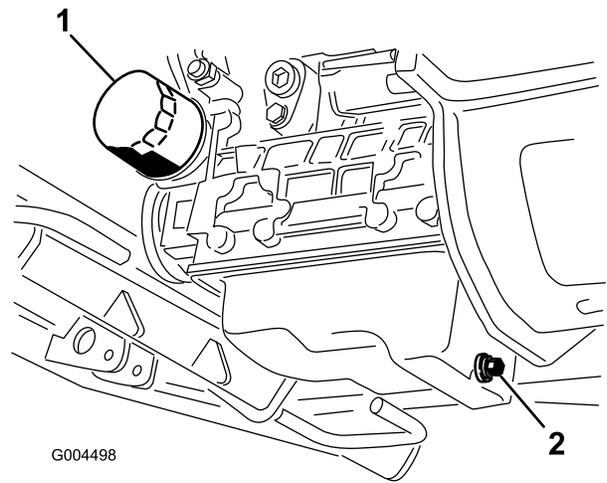

Figure 41
- Set a drain pan under the oil pan and in line with the drain plug (Figure 41).
- Remove and replace the oil filter (Figure 41).